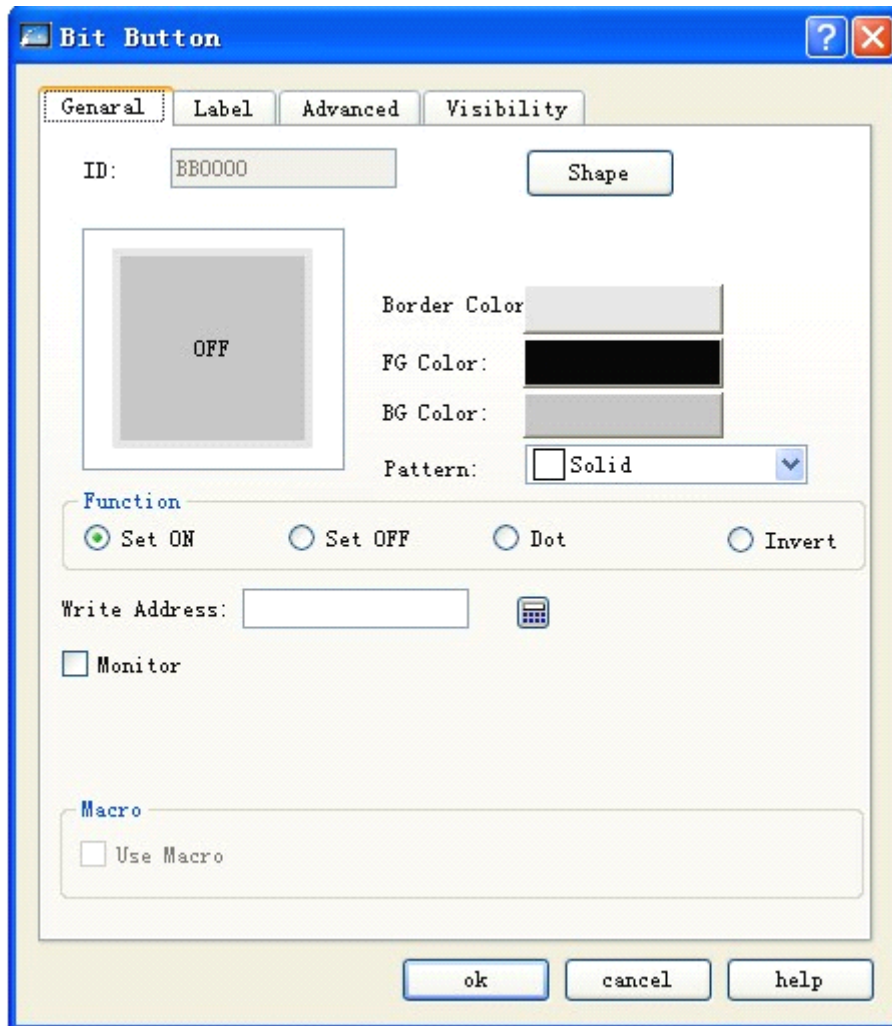

Figure 4-73: Bit button dialog
1. Click Bit Button icon  in the tool bar, and then a dialog will pop up for setting of bit button properties. See Figure 4-73.